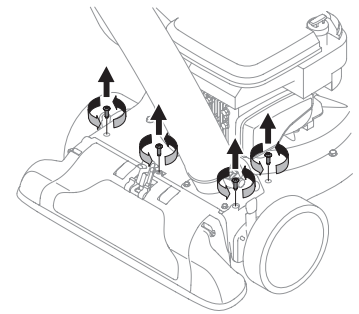

Figure 23
- Remove the four screws on the upper housing that secure the nozzle cover. See Figure 23.